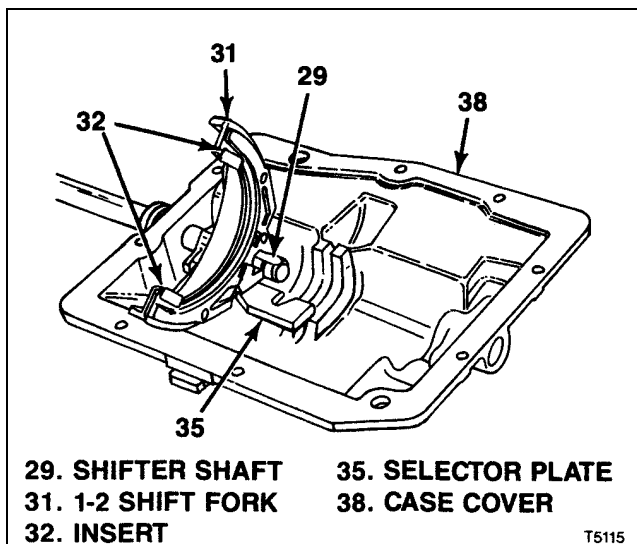

Figure 6-16. Installing T5 WC 1-2 Shift Fork
- e. Position 1-2 shift fork (31) (with inserts and selector plate) in case cover (38) and push shifter shaft (29) just through fork. Notch in selector plate should align with semi-circular groove in cover (see figure 6-16).